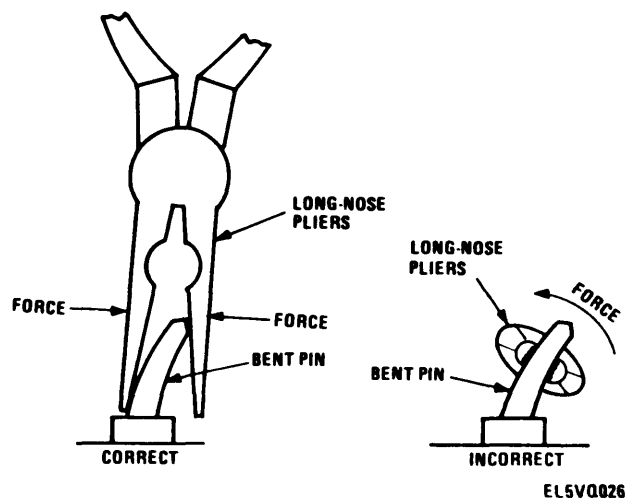

Figure 3-11. Pin Straightening procedure.
(3) The three modules may be removed now by pulling them up from the removable circuit board with the fingers.
(4) To insert the vco, modulator/mixer, or synthesizer module, align the module pins with the sockets on the removable circuit board. *Gently* push the module into place. When all three modules are installed on the removable circuit board, connect the synthesizer cable assembly. Align the removable circuit board pins with the frame sockets and gently push the removable circuit board into place. Make sure the modules and removable circuit board are properly seated.
a. Always inspect a module for bent or broken pins before inserting it into the frame sockets. To straighten bent pins, use needle-nose or long-nose pliers with smooth jaws. Position the jaws so that the whole pin is straightened simultaneously (see fig. 3-11 ).